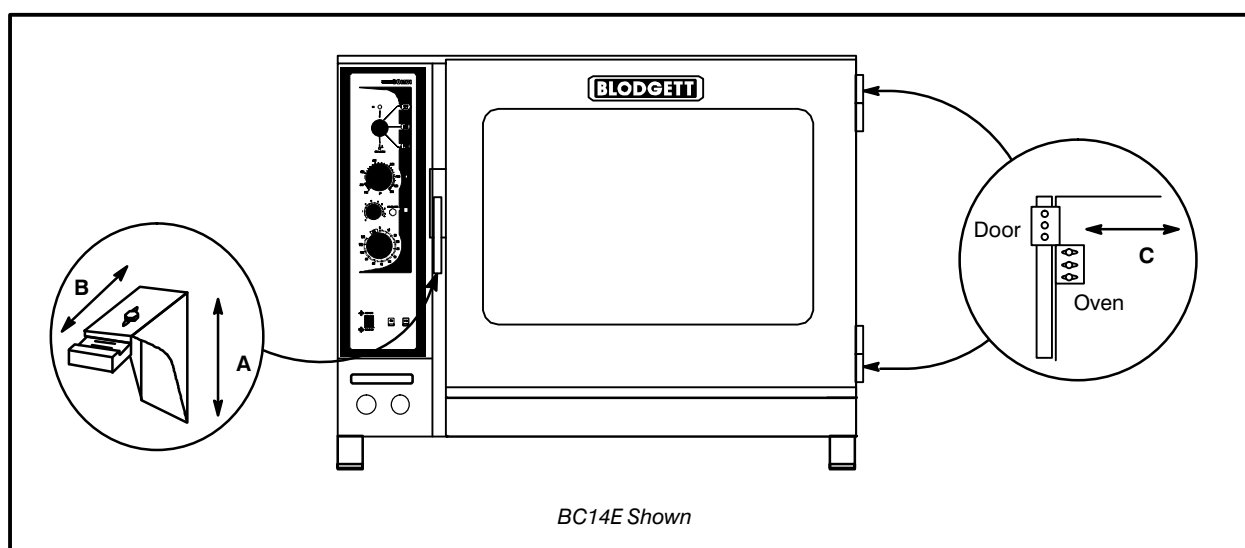

Figure 10
1. Adjust up and down by loosening the two bolts holding the catch to the face of the appliance. See Figure 10 (A).
4. Adjust in and out by loosening the bolt on top of the catch. See Figure 10 (B).
2. Adjust hinges so that the door back and the appliance face are parallel. See Figure 10 (C).